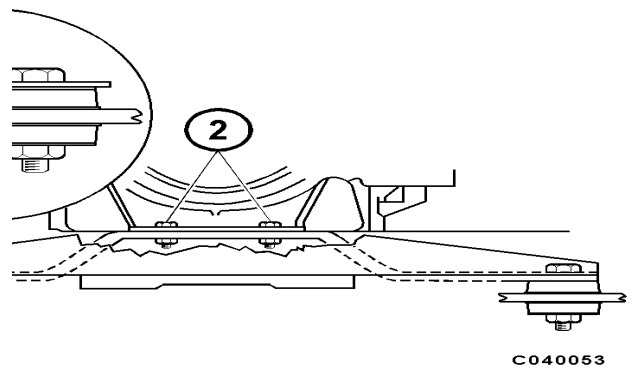

FIGURE 4-2. FRONT ENGINE CRADLE MOUNT
11. Measure height of front engine cradle to frame mounts (Figure 4-2). Measurement should be 2.06 in. (52.3 mm). If less than this dimension, rubber mount should be replaced after engine is removed.
14. Remove capscrews securing front engine mount to cradle (2, Figure 4-2), and capscrews at each rubber mount of cradle.